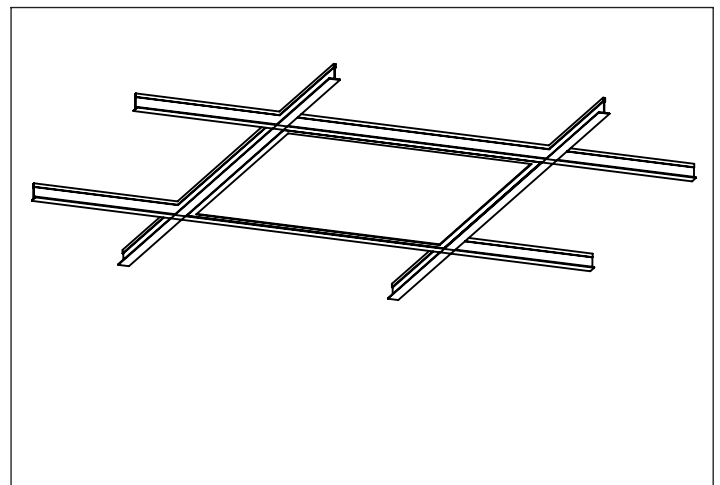

Figure 4
4. AGG unit install completed. (Fig. 4)